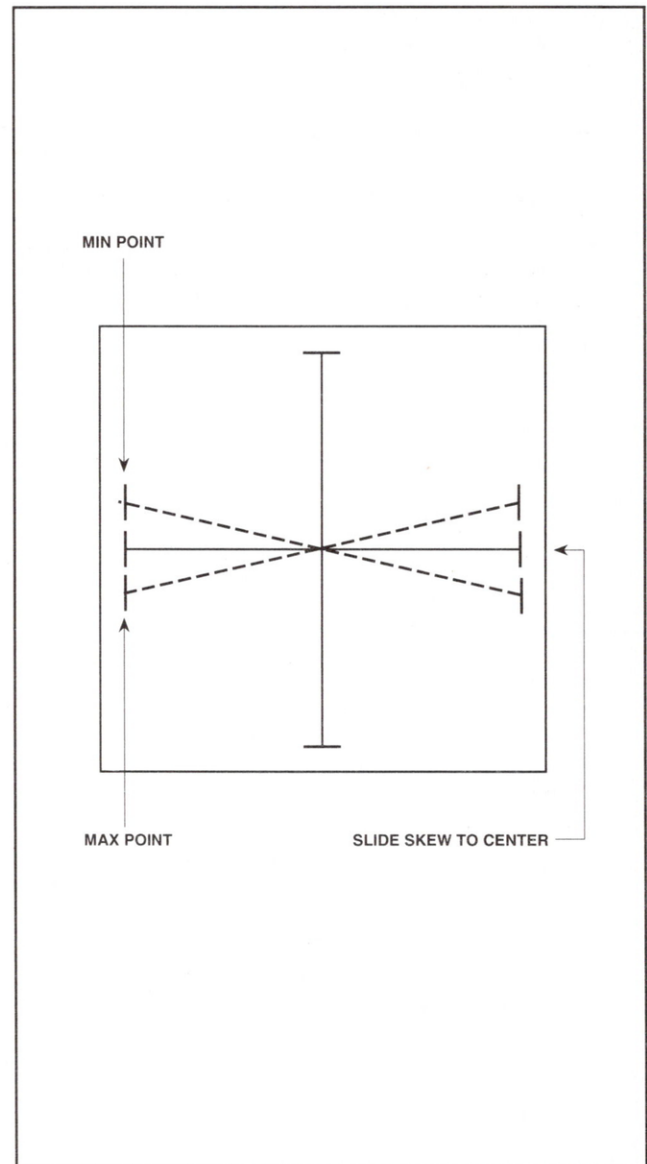

Figure 5
8. Adjust the skew using the arrow keys so that the line is at the midpoint between the MIN and MAX positions. (See Figure 5.)